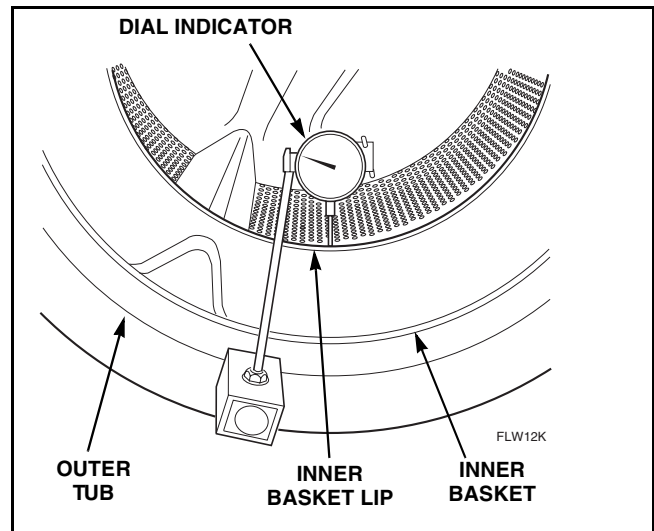

Figure 26
- Check for concentricity/roundness of assembly. Use a dial indicator to check that concentricity at the inside edge of inner basket lip is a maximum of .05 inch TIR (Total Indicator Runout). Refer to *Figure 26*. If concentricity is not within .05 inch, remove assembly from washer and adjust location of trunnion. Repeat until concentricity is within .05 inch.